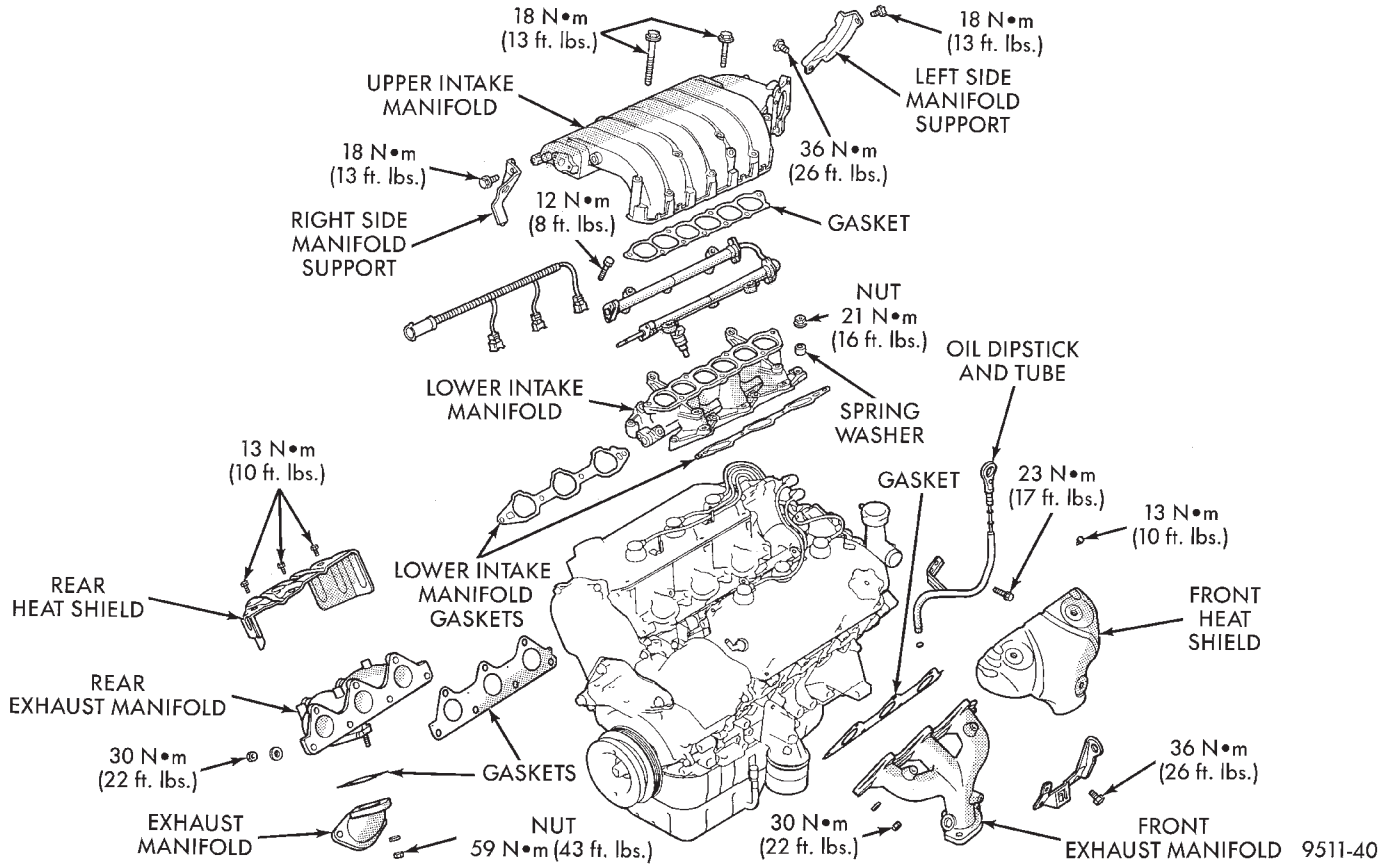
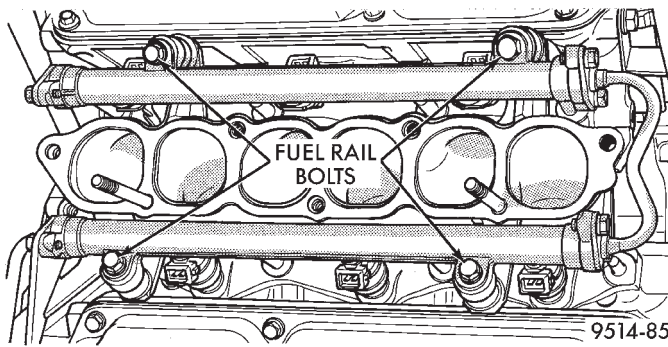

Fig. 28 Intake and Exhaust Manifolds—2.5L Engine
Fig. 36 Fuel Rail Attachment
(15) Remove 7 bolts holding upper intake plenum and remove plenum (Fig. 28).
(16) Disconnect electrical connectors from fuel injectors.
(17) Remove 4 bolts holding fuel rail (Fig. 36).
- (4) Remove power steering pump bracket. Refer to Group 19, Steering for procedure.
- (5) Remove nuts attaching rear manifold to cylinder head and remove manifold.
- (6) Lower vehicle and remove screws attaching front heat shield to front manifold (Fig. 28).